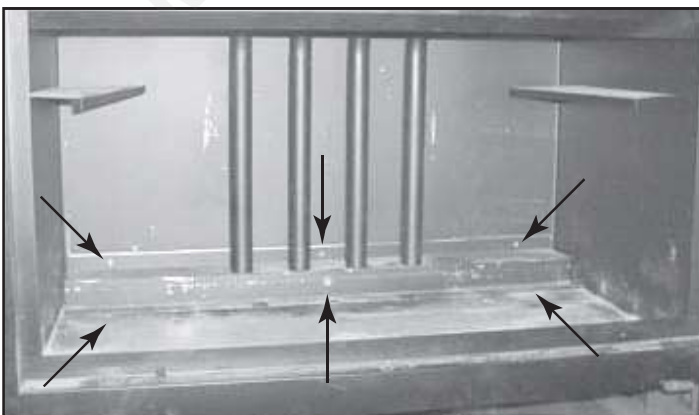

Figure 5 Remove Hearth Filler
- Remove the six screws from the hearth filler. See Figure 5.
- Drop hearth filler back into place and use six screws to fasten in place. Refer to Figure 5.